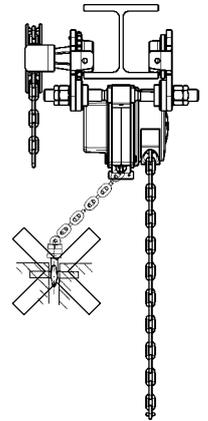
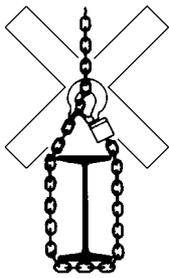

Fig. 4
Fig. 5
- Avoid side pull, i. e. side load on housing or bottom block (Fig. 4).
- The load chain must not be used for lashing purposes (sling chain) (Fig. 5).
LHP/G (Fig. 4 and Fig. 5)